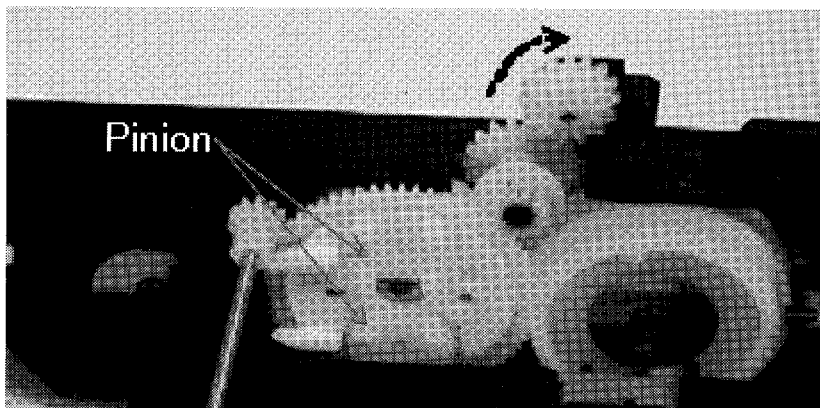

Fig.15
- 1) Turn **BEVEL GEAR 4 (17)** clockwise. The lower **PINION** in **GEAR SUPPORT** turns anti-clockwise. After it stops, the upper **PINION** turns clockwise. Just before the lower **PINION** starts to turn, stop to turn **GEAR IDLER 2**. Set **CARRIAGE 20(62)** as fitting it with the lower **PINION** as Fig. 15.